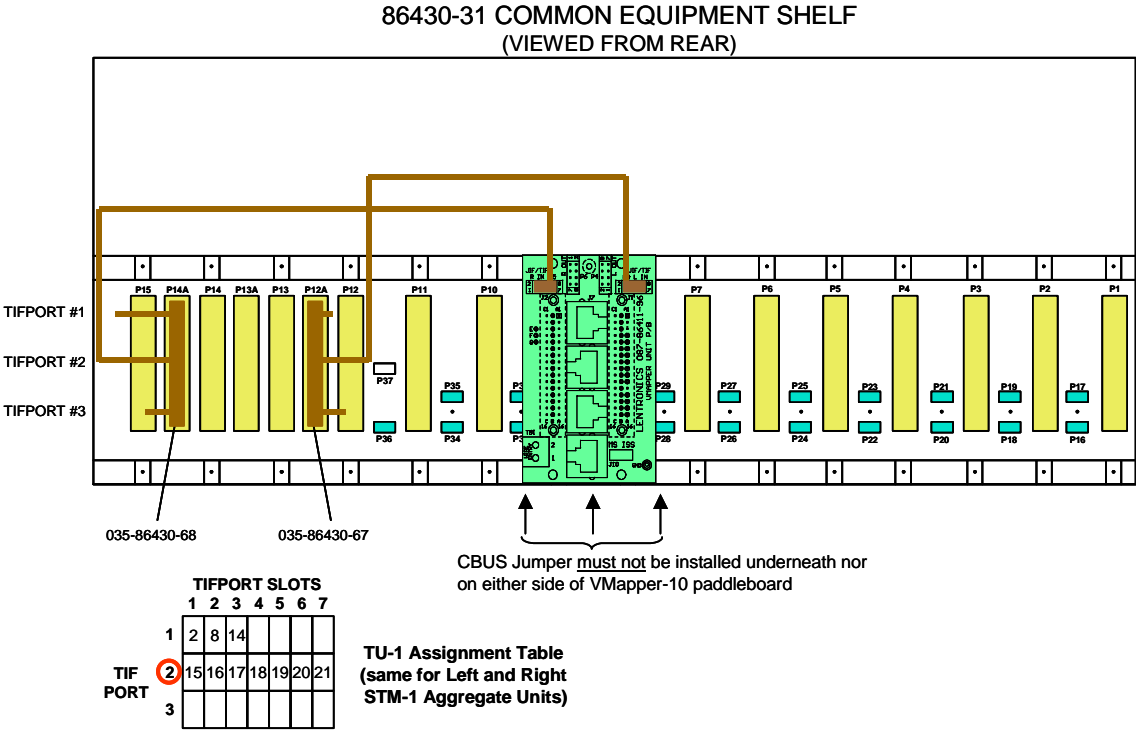

Figure 6: Example of TU-1s dropped on an unused TIFport (ring application)
In the example in Figure 6, TU-1#15,16,17,18,19,20,21 are to be dropped on TIFport #2 on both left and right STM-1 Aggregate units and are terminated on a VMapper-10 unit. (Alternatively, if applicable, the shelf could be equipped with TUG-3 units, and the following procedure would also apply.)
6. Establish TIFport cable connections from the left and right STM-1 unit's TIFport to the Left IN and Right IN 8-pin headers (P3 and P5) of the VMapper-10 unit Paddleboard respectively (see Figure 6). (For more information on the shelf connectors and cabling refer to the *TN1U Equipment Shelf TPIM and CA86450 Cable Assembly* drawing).